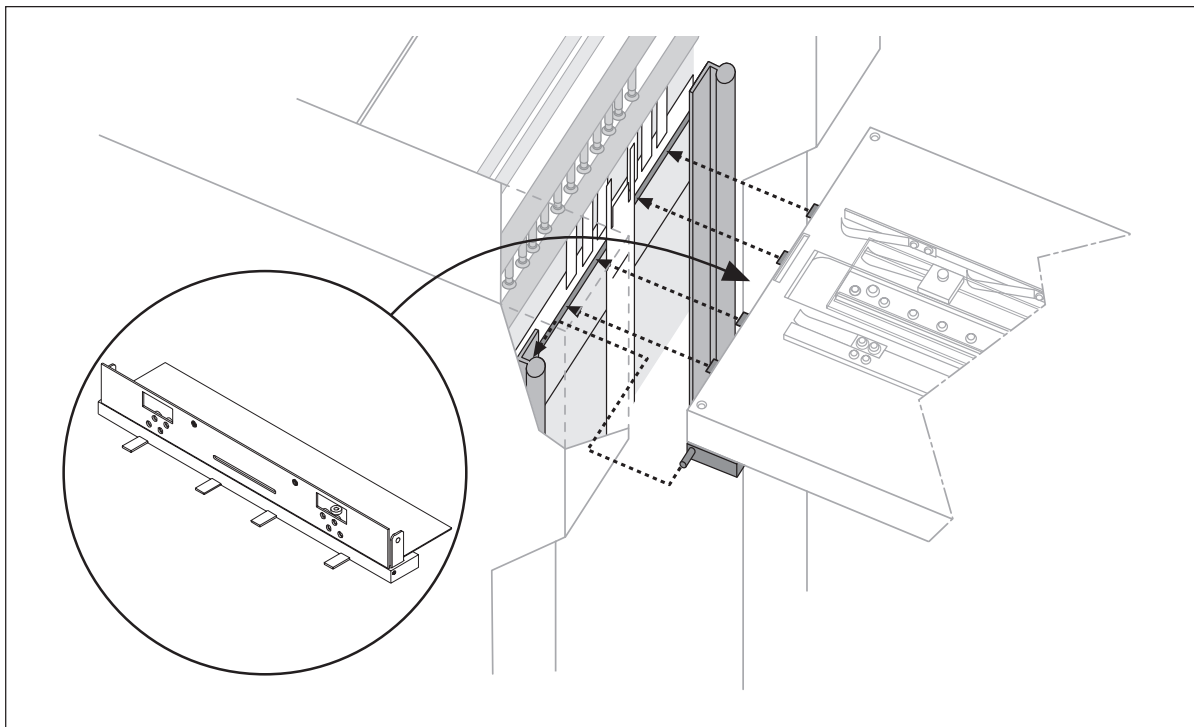

Figure 2. Connect the Quickmaster to the 270RT Feeder
5. Ensure that the four flat brackets connect to the slots of the offset press, and that the top of the 270RT table is aligned to the top of the press registration bar (Figure 2).